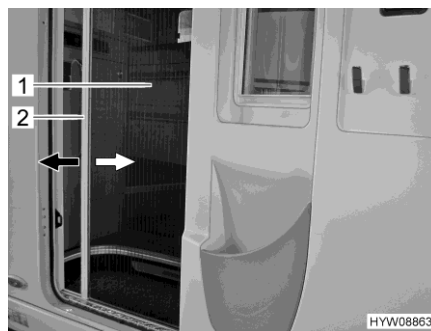

Fig. 57 Insect screen (living area door)
- Hold holding bar (Fig. 57,2) with both hands and pull the insect screen (Fig. 57,1) evenly out of the door holder.
- Hold holding bar (Fig. 57,2) with both hands and push the insect screen (Fig. 57,1) back into the door holder applying slight pressure.